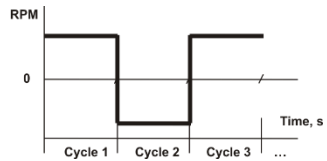

Figure 3.
**MM-1000** is programmed to change the direction of rotation when the motion timer is restarted, i.e. if the rotation time is set to 30 s, then the direction is changed every 30 s as shown on figure 3, where positive RPM is clockwise motion and negative - counter clockwise.